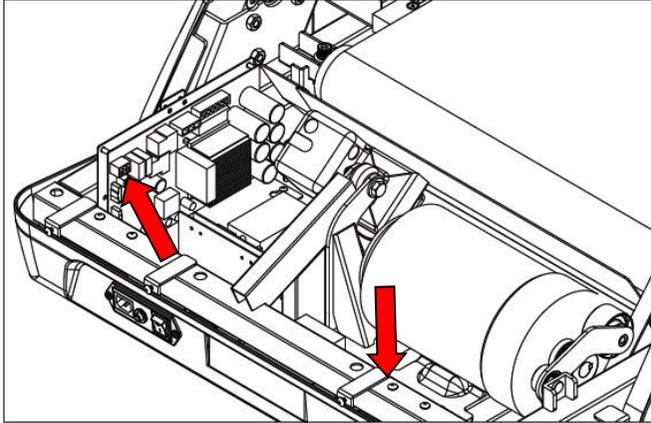

Figure 4.7.5
4.7.4 As shown in Figure 4.7.5, the assembly of the lifting motor should be replaced in the order of removal and connected to the control and grounding lines.